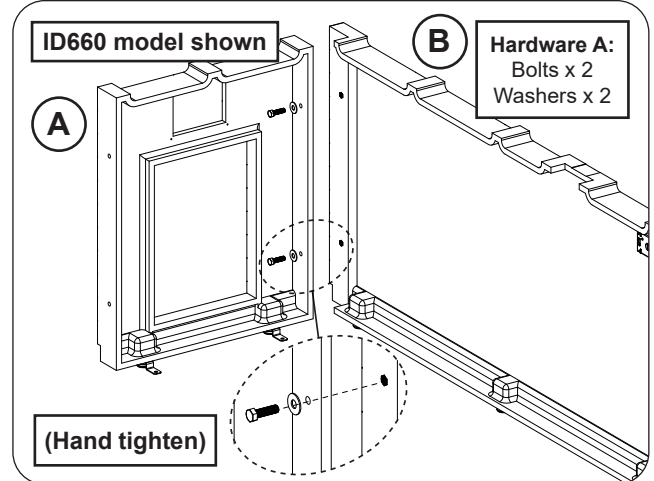

Fig. 8-2 Assemble left side wall and rear wall
Orient the left side wall (A) and rear wall (B) as shown. Carefully align the pilot holes, and insert the hardware (hardware kit A) in the order shown. Hand tighten only. See Fig. 8-2.